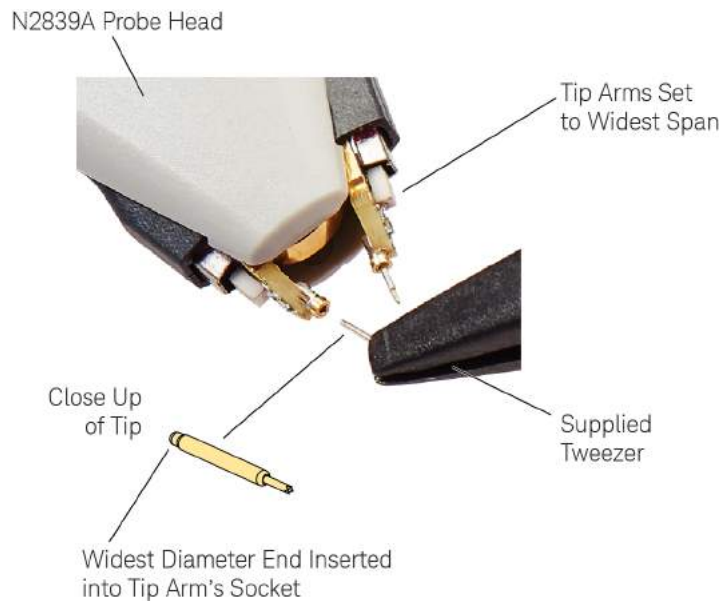

Figure 32 Inserting a Tip
- 3 Pick up a new tip using the supplied tweezers. Identify the correct end to insert into the tip arm as shown in **Figure 32**. The end of the tip that has the widest diameter is inserted into the tip arm.